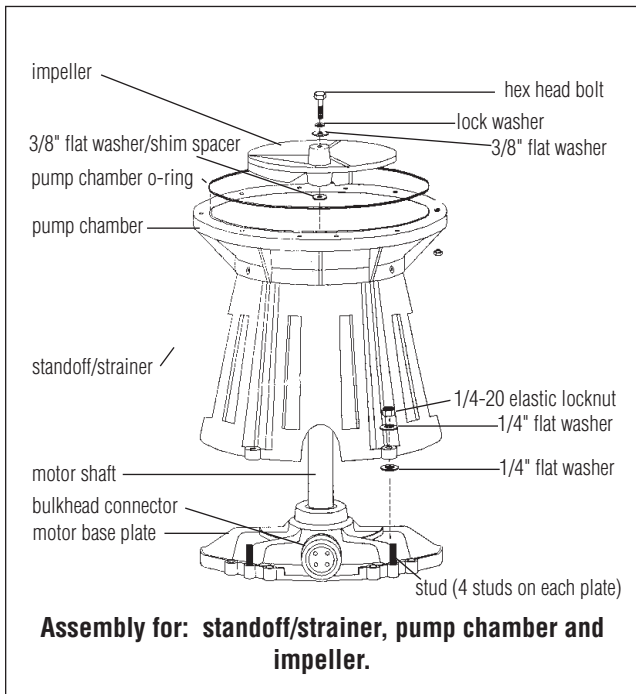

Figure 1
A. Assembly for: standoff/strainer, pump chamber and impeller --see figure 1.
1. Place 1/4" flat washer over each one of the (4) studs on the motor base plate.
2. Install the pump chamber and standoff/strainer (which have already been pre-assembled at the factory) onto the motor base plate with (4) 1/4" flat washers and (4) 1/4"-20 elastic locknuts. CAUTION: Do not over tighten.